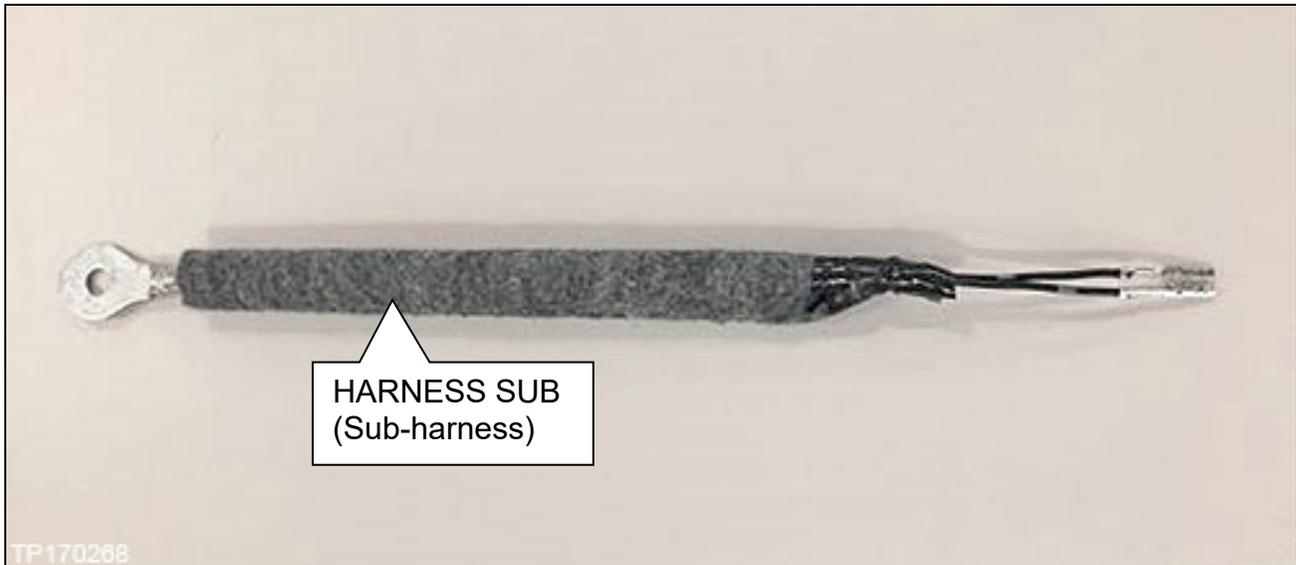

Figure 29
- Figure 29 shows sub-harness.